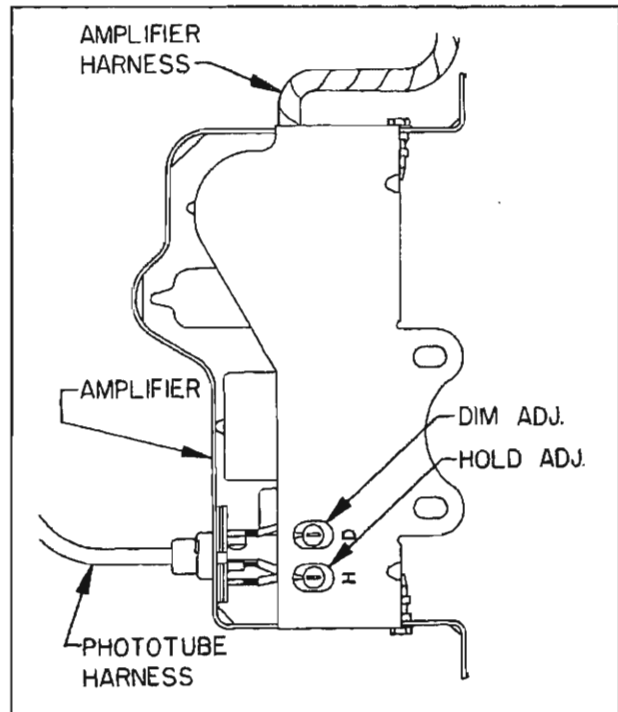

Fig. 12-20 Dim and Hold Adjustment Screw Location
1. Hold-and dim-sensitivity controls are slotted for screwdriver adjustment and are located at the side of the amplifier unit. (Fig. 12-20).